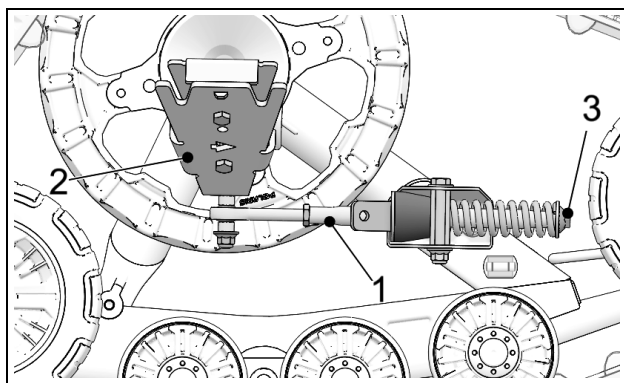

Figure 3
- Verify that the Stabilizing arm (1) is attached to the front anchor bracket (2) installed on the vehicle. See Figure 3.